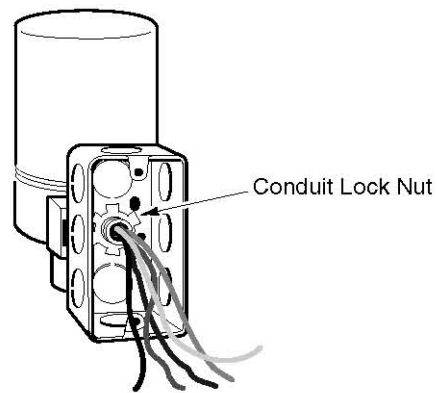

Figure-11 Attachment of Conduit Box to Conduit Bushing.
5. Loosely install the conduit box and the locknut onto the conduit bushing. Refer to Figure-11.